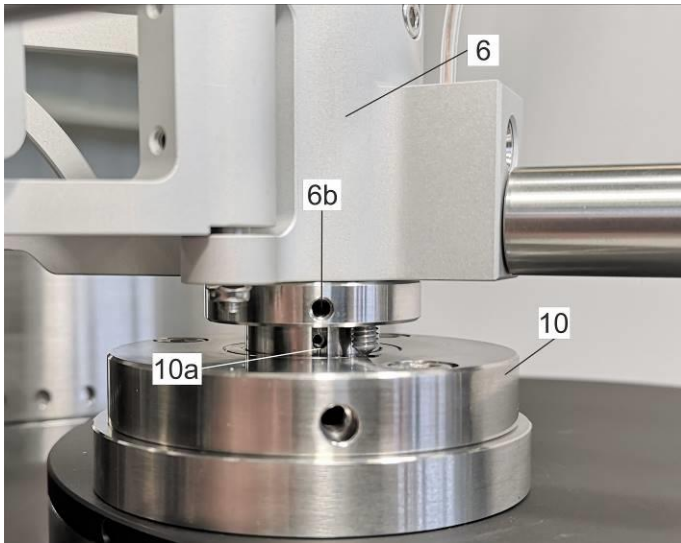

Figure 14
- e) Set tonearm body [6] on the base [10]. Fixing screw [6b] must match with the groove [10a] in tonearm base. Fix the screw [6b] with hex (allen) key (Figure 14).